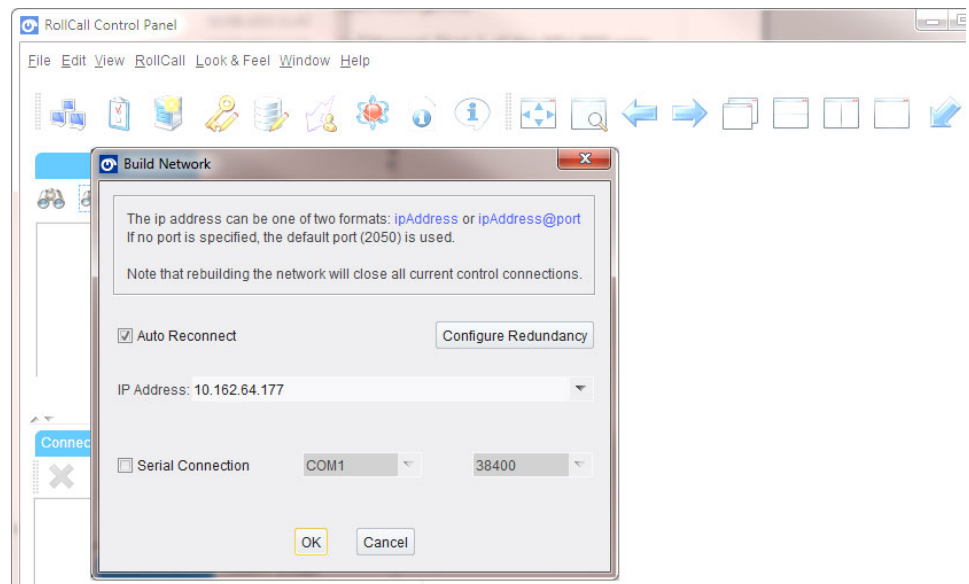

Fig. 9-3: Build Network Dialog
- 2 Click on the **Build Network**  icon in the RollCall tool bar to display the **Build Network** dialog. See Figure 9-3.